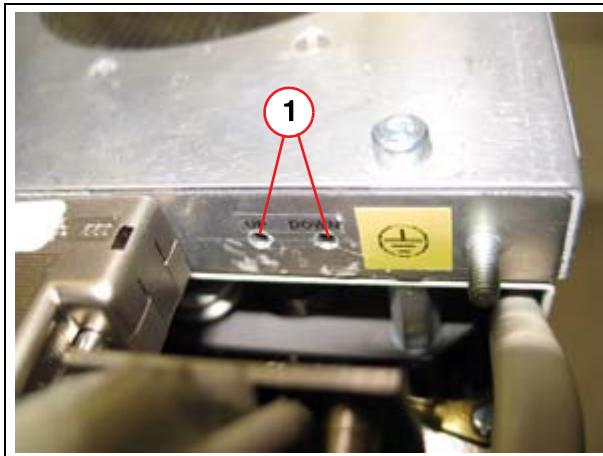

Fig. 5: Wellhöfer_DAP
9. Adjust the chamber gain by pushing the up or down button for at least 200 ms for each push at the chamber (1/Fig. 5 / p. 22).